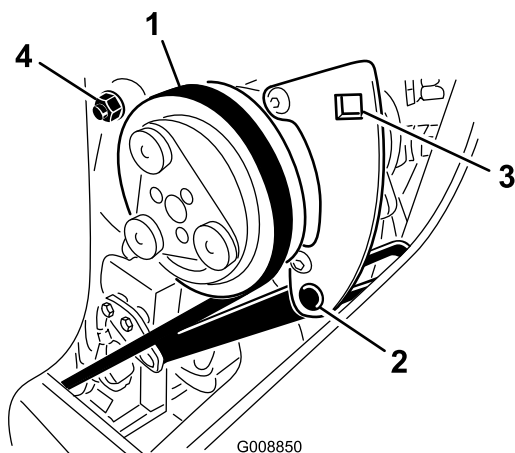

Figure 80
1. Loosen the compressor-pivot bolt and adjusting bolt (Figure 80).
2. Insert a torque wrench into the square hole in the compressor bracket (Figure 80).